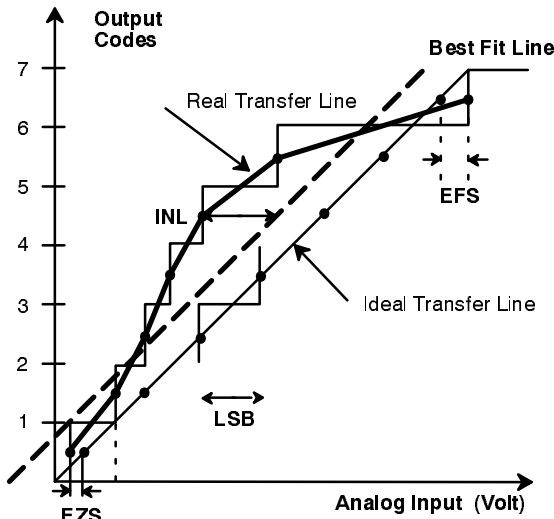

**Figure 6. Real A/D Transfer Curve**
- 2 Tester measures code transition voltages by dithering the voltage of the analog input (VIN). The difference between the measured code width and the ideal value (VREF/1024) is the DNL error (see Figure 5 and Figure 6). The INL error is the maximum distance (in LSBs) from the best fit line to any transition voltage (See Figure 7).
Figure 6 shows the zero scale and full scale error terms.